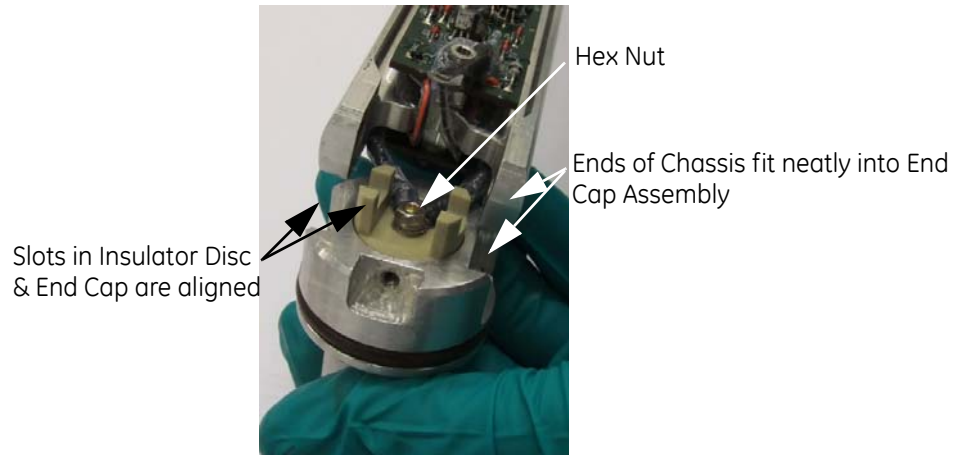

Figure 5-6 The Upper End Cap removed from Electronics Chassis
- 1 Remove the Cap Hd Screw, three Serrated Washers and two Solder Tags (items 25, 32 & 23, 85971) complete with the black ground wire attached.
- 2 Unscrew and remove the Retaining Nut (item 16, 85971) from the Upper End Cap (item 10, 85971).
- 3 Unscrew the two Csk Hd Skt Screws (item 27, 85971), then pull the End Cap and the Connector Assembly away from the Electronics Chassis.
Note: The orientation of the Insulator Disc should be noted. The slots align with the slots on the Upper End Cap (item 10, 85971), which in turn line up and engage with the flat surface of the Electrical Chassis (item 12, 85971). See Figure 5-6.
- vi. Then rotate the End Cap Assembly through 90° to fit it to the Electronics Chassis (item 12, 85971). Position the Isolating Disc (item 14, 85971) so that it fits onto the end of the Electronics Chassis (item 12, 85971) but does not trap any wires. The black wires should be located, on the underside of the Electronics Chassis, in the wiring channels on the Electronics Chassis. See Figure 5-6 and Figure 5-10.